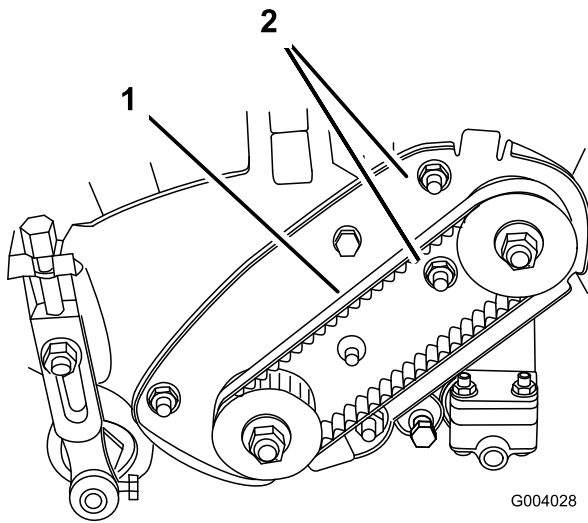

Figure 34
- A. Loosen the bearing housing mounting nuts (Figure 34).
C. While holding the torque wrench setting, tighten the bearing housing mounting nuts (Figure 34). Do not over-tension belt.